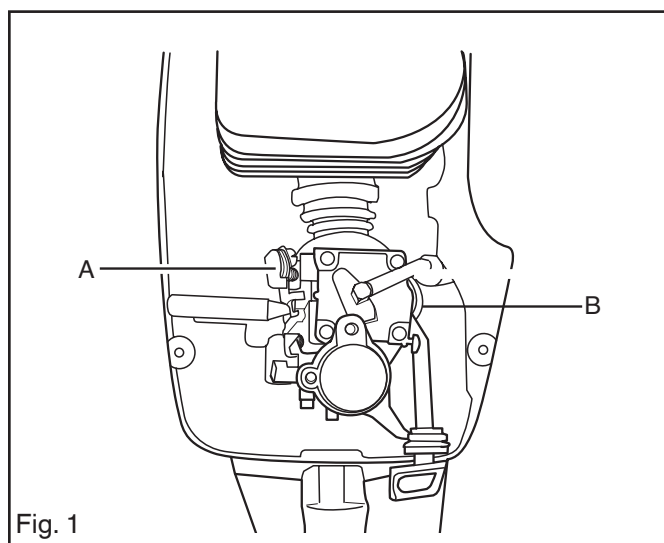

Fig. 1
3. Unhook the throttle cable (A) from the carburettor and push out the cable casing from its attachment. See fig. 1.
4. Remove the fuel pipe (B) from the carburettor. See fig 1.